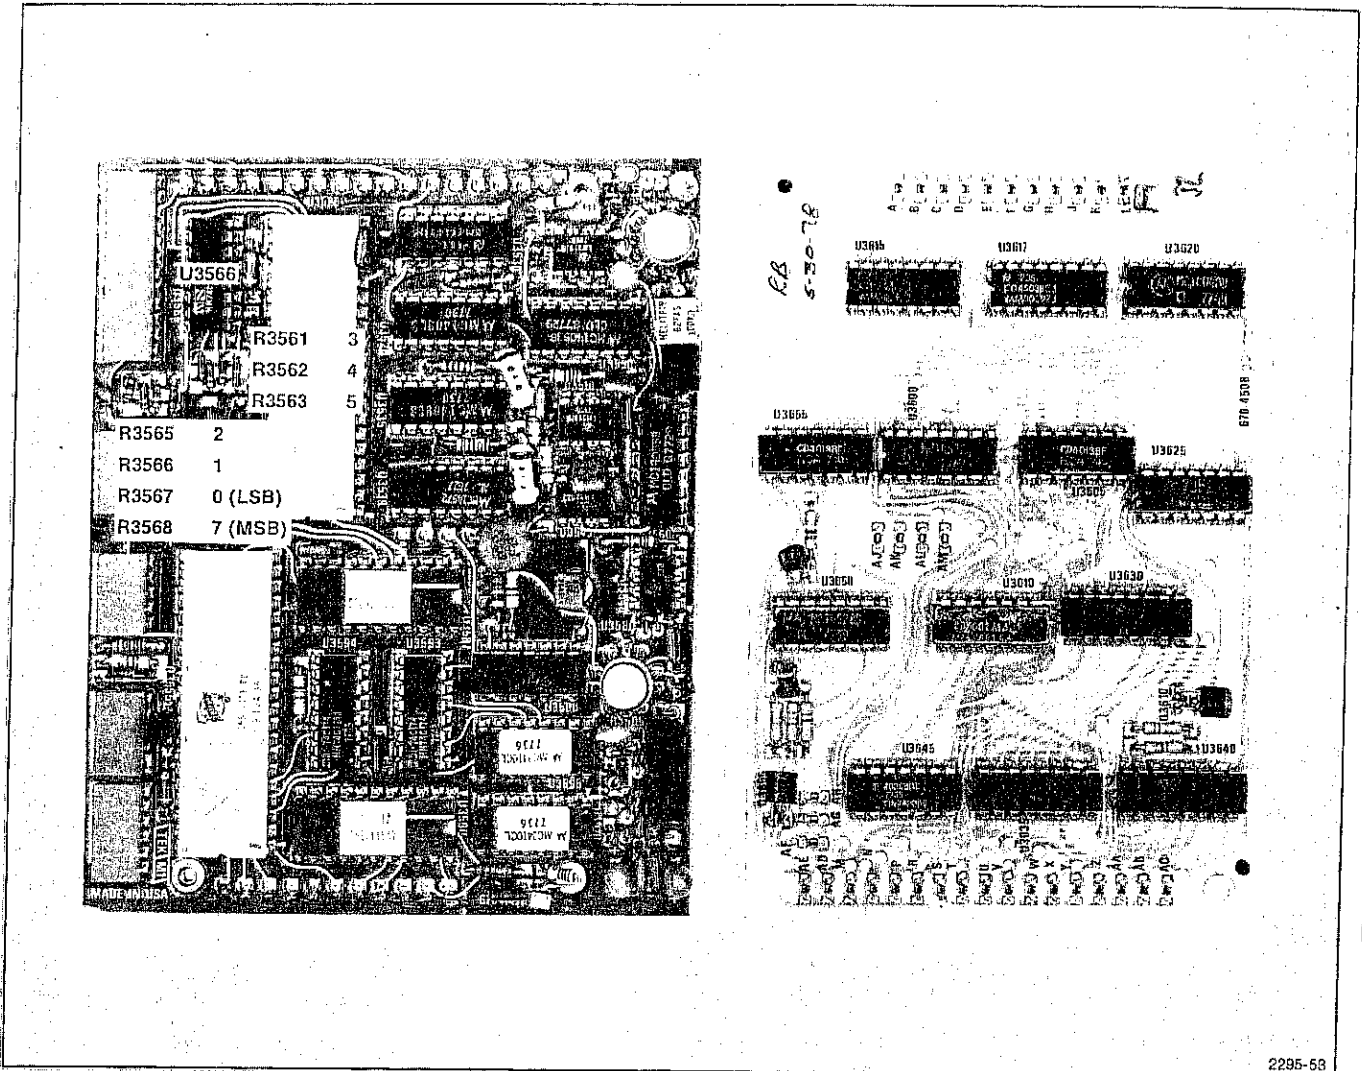
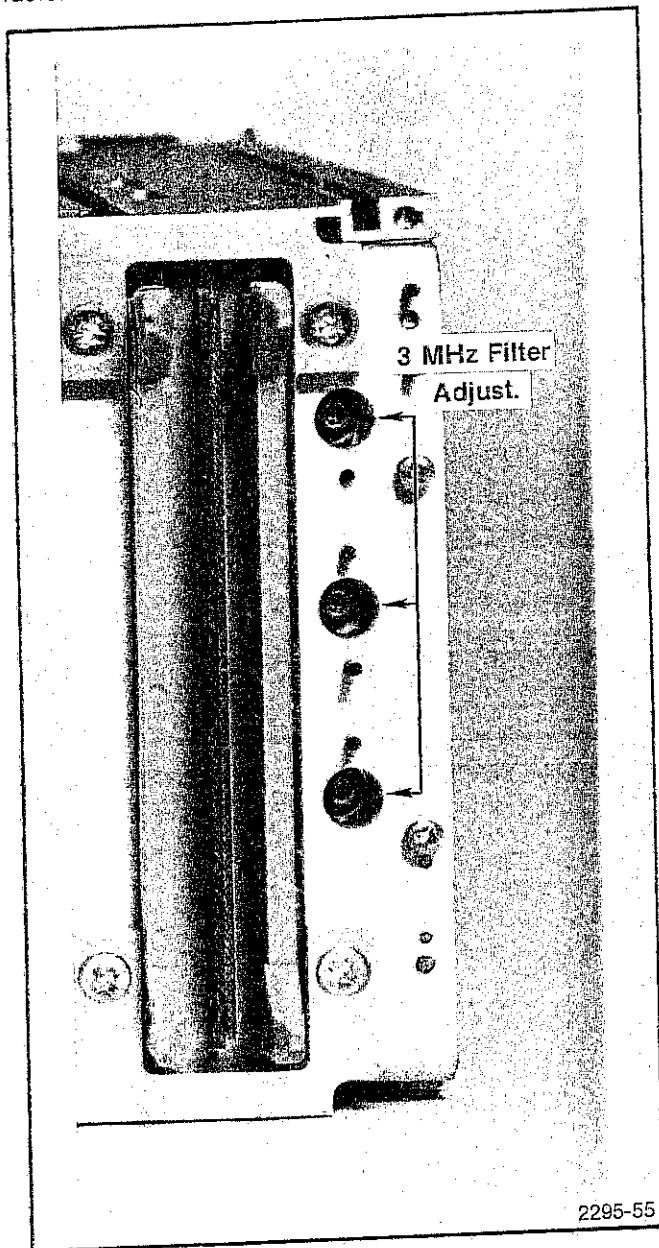

Fig. 4-45. Location of B-SAVE A Reference Level Positioning Resistor Matrix.
Fig. 4-47. Location of 3 MHz, Three-Section Filter Adjustments.
d. Connect or disconnect resistors R3561 through R3568 (see Fig. 4-45) to acquire the desired "K" factor or reference level.
f. Change the RESOLUTION BANDWIDTH to 3 MHz, then adjust the three cavity filter (see Fig. 4-47) with a 7/64" Allen drive wrench, and the 3 MHz Noise Filter with C3454 (see Fig. 4-45) for the best amplitude, symmetry, and shape around the 30 kHz reference center frequency.